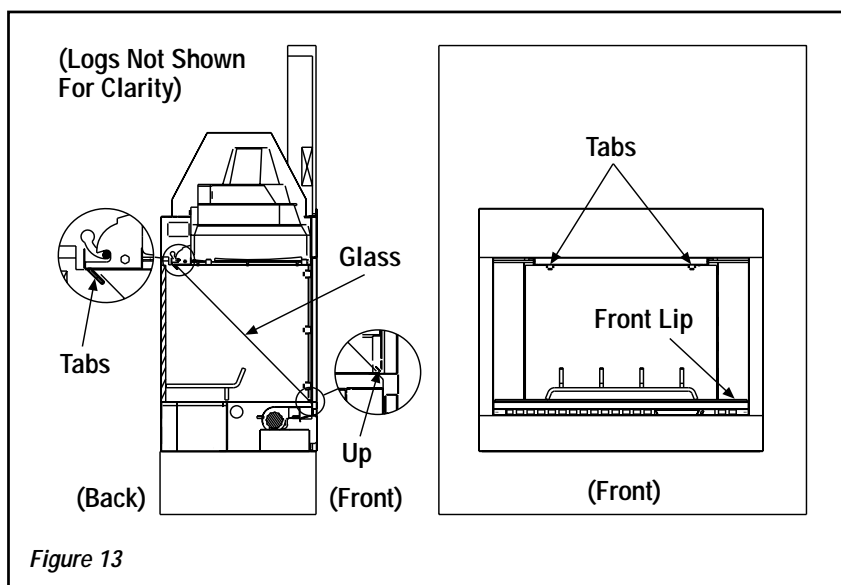

Figure 13
7. After the glass is clean, lift the glass with the gloved hand and hold it in front of you like a serving platter, with the narrow side away from you. Insert the narrow end into the fireplace and press the glass onto the two black rubber tabs in the back of the firebox (*see Figure 13*).
To access the logs, grate embers and lights, the glass panel needs to be removed. An illustration of the glass panel installation is shown in *Figure 13*.